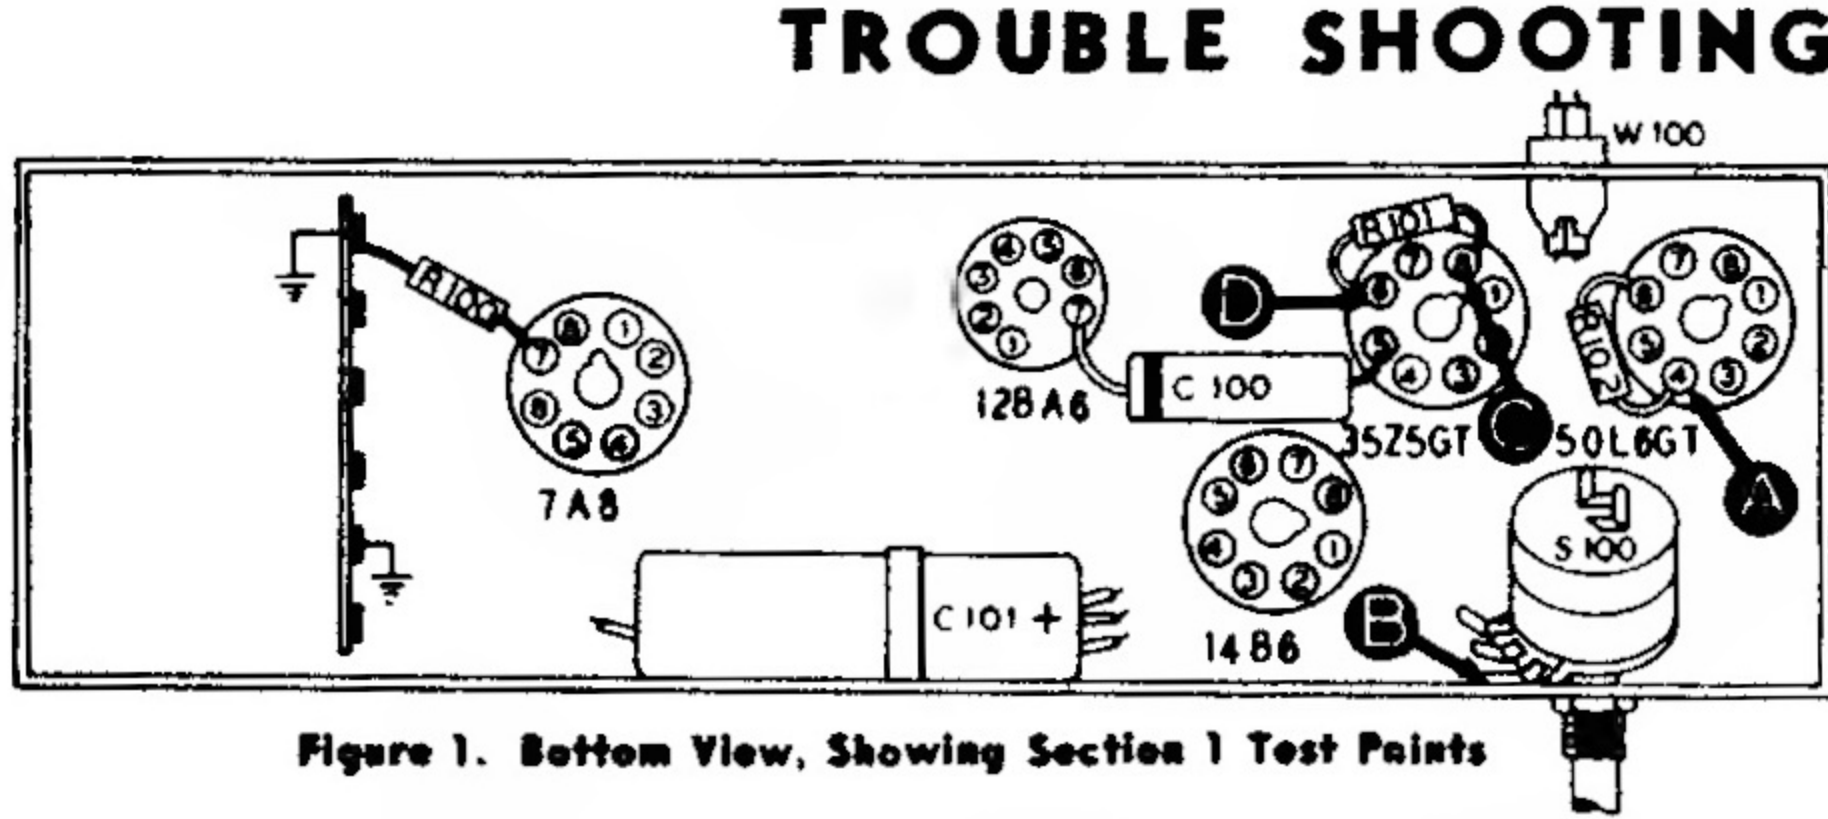

Figure 1. Bottom View, Showing Section 1 Test Points
2. Measure the resistance between B+ (test point C) and B- (test point B). See figure 1. When the ohmmeter test leads are connected in the proper polarity, the highest resistance reading will be obtained. If the reading is lower than 1500 ohms, check condensers C101A, C101B, C101C, and C203 for leakage or shorts. The resistance value given is much lower than normal, and is not intended as a quality check of these condensers; the value given is the lowest at which the rectifier will operate safely while the voltage checks of Section 1 (power supply) are performed.